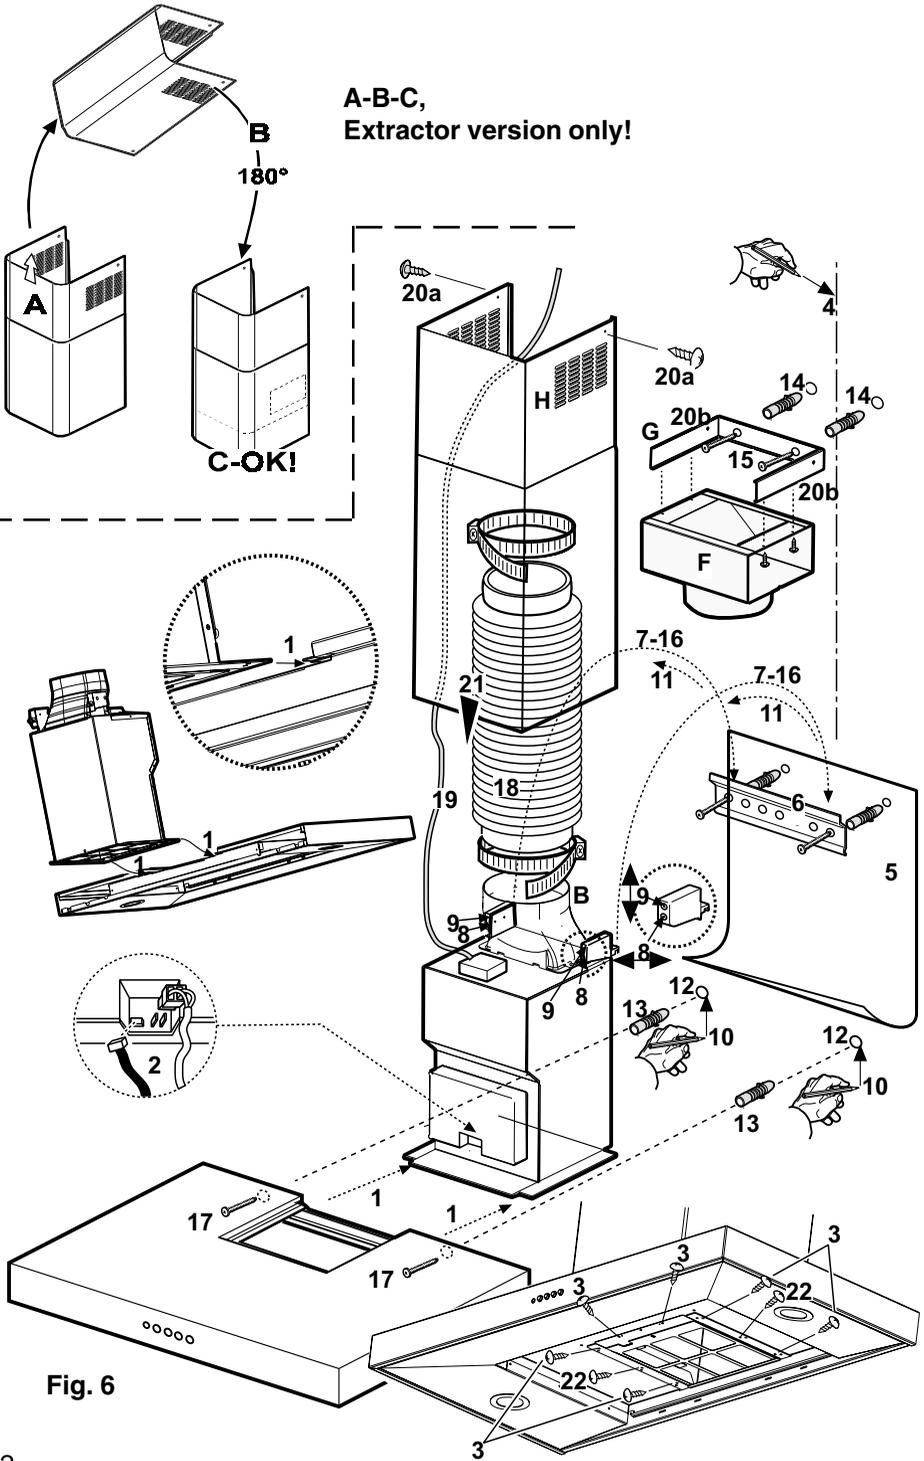

Fig. 6
Wall unit mounting - Fig. 6
- **Only for extractor version:** position the upper section of the chimney so that the outlet slots **H** are not visible (see also **A-B-C** sequence on on **Fig. 6**).